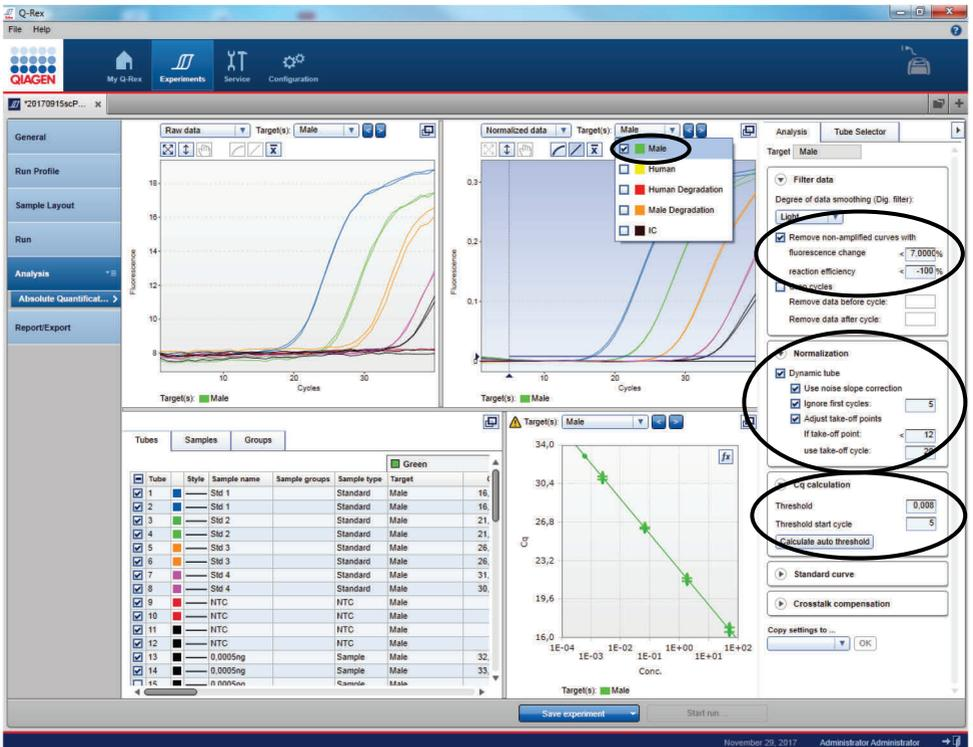

Figure 31. Setting analysis parameters in Q-Rex.
6. Select the green channel (Male target) within the normalized data section (Figure 31).
7. Select "Filter data" on the right panel (Figure 31).
9. Select "Normalization" (Figure 31).
12. Select "Cq calculation" on the right panel (Figure 31).
14. Repeat step 7 to 14 for the yellow (Human target), orange (Male Degradation target), red (Human Degradation target) and crimson (IC) channel, and confirm analysis settings according to table 12.